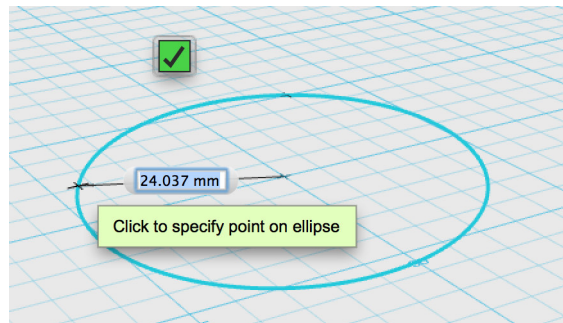

Figure 4-48 Set the other dimension of the ellipse
4. Click again to designate the remaining dimension (Figure 4-48).